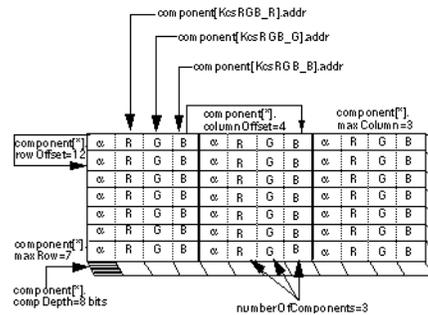

FIGURE 3-1 24-bit Color Component-Interleaved Data for RGB Pixel Image
- *Component-interleaved* data — Color components of a pixel (for example, the red, green, and blue channels of an RGB image) are stored in consecutive memory addresses. (This is also called pixel-interleaved data.) See Figure 3-1 for a detailed diagram of this pixel layout.
Your application can use a pixel layout structure to define any rectangular region of a larger image. Example 3-4 and Figure 3-1 illustrate the component-interleaved, 3-by-7 pixel layout supported in the API.